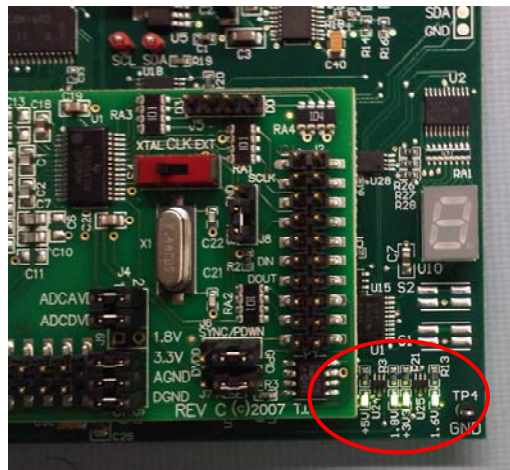

Figure 3
2. Power up the MMB0 by plugging in the wall wart into the wall and then into the J2 connector. Once powered, four green LEDs should power on the MMB0 indicating that the on board regulators are powered properly. See Figure 3.